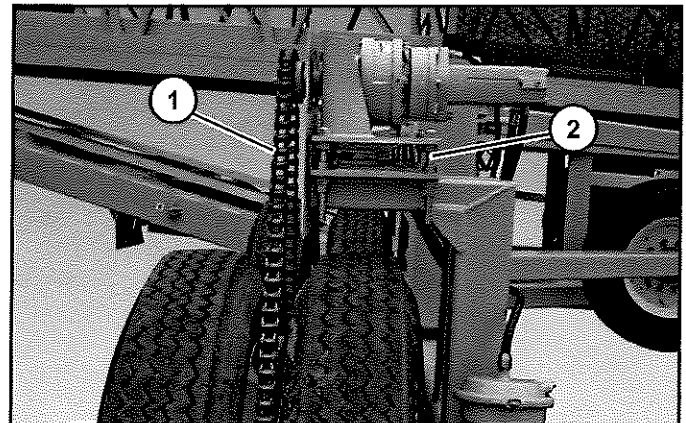

Figure 23
13. Install the chain (Item 1) by wrapping the chain around both the drive and driven sprocket. Install the full link connector and properly tension the chain by adjusting the bolts (Item 2) (Figure 23). Make sure the sprockets are correctly aligned.